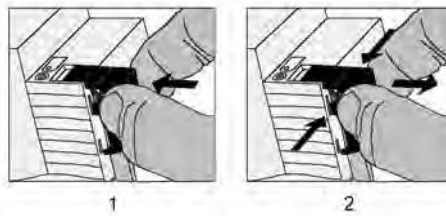

Figure 8: Installing / removing the protective cap for the bus connection
- To install the cap: slide the cap over the bus connecting terminal until you feel it engage (figure 8).
- To remove the cap: Remove the cap by pressing the sides slightly and by pulling it out to the front (figure 8).